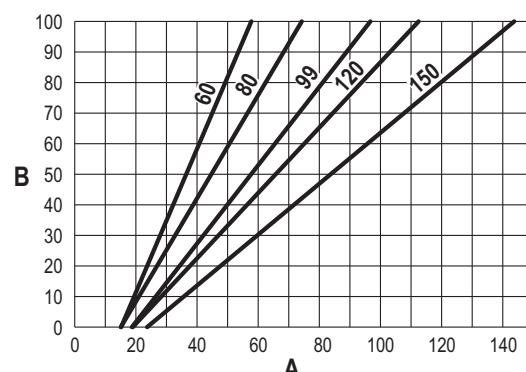

fig. 59
- Press the **contextual buttons 1 and 2** to increase or decrease the heating capacity (minimum = 00 - maximum = 100). See the diagram “Heating Capacity Adjustment” (fig. 59).